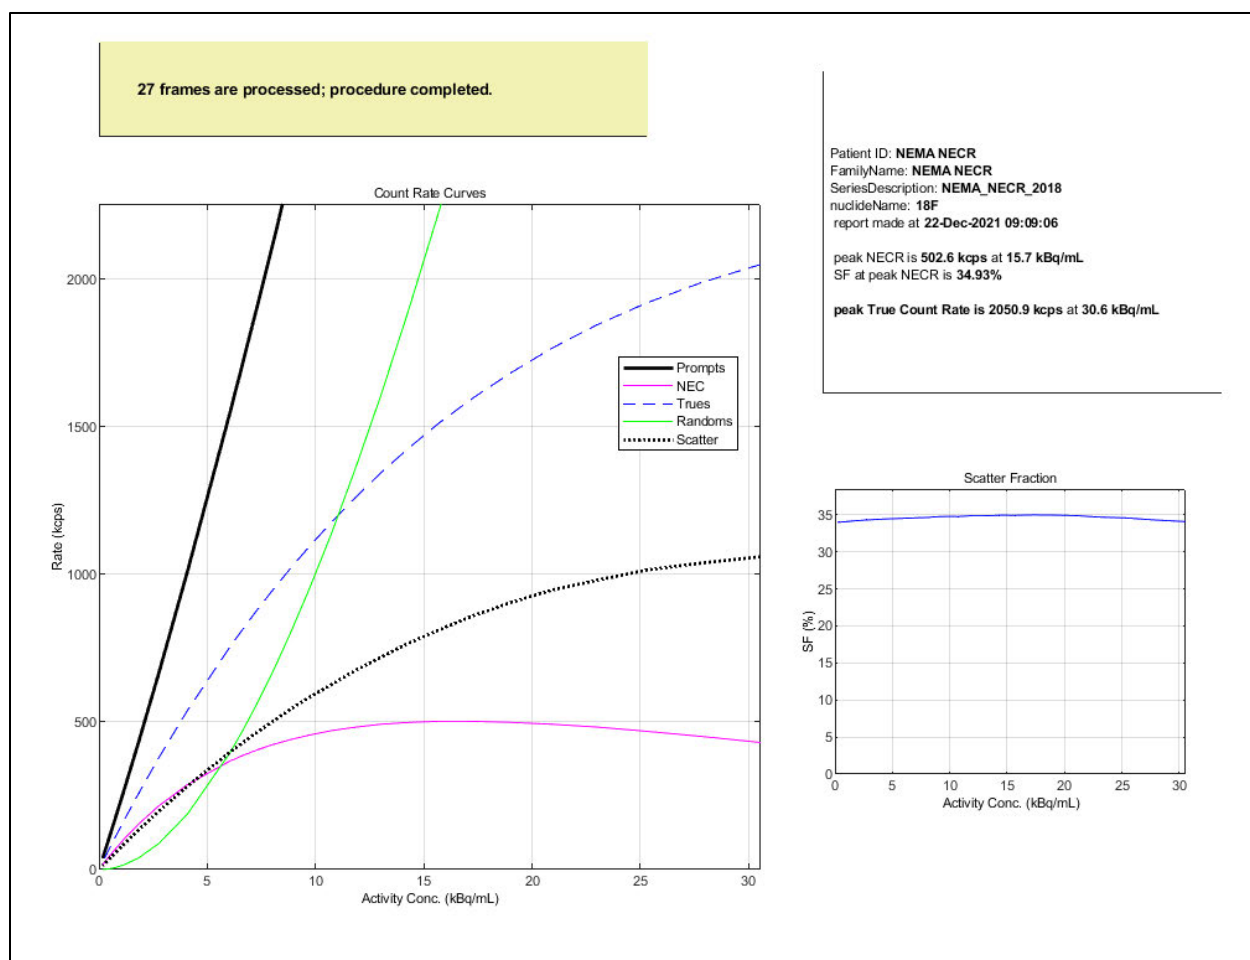

Figure 5.7: Example of Count Rate Results and Scatter Fraction for Omni Legend (32 cm axial FOV).
- After 2 hours approximately, the system displays a Scatter Fraction and Count Rate Results panel, similar to the one shown in Figure 5.7 .
11. Refer to Figure 5.7. Record the activity value at peak NECR shown on your results screen, for use during Section 6.1 .